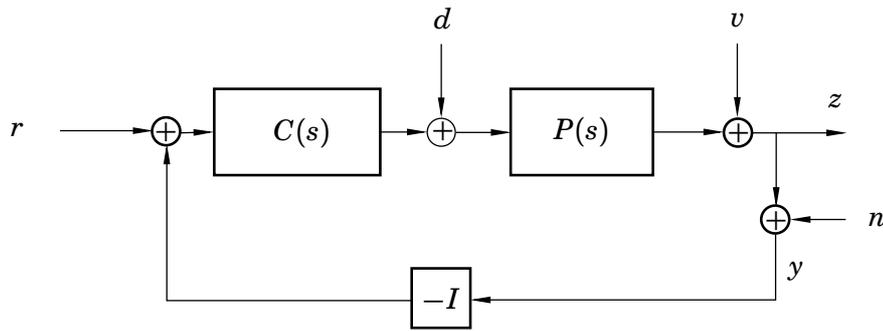

Figure 6.5 System in Problem 6.6
6.6 A multi-variable system (block diagram in Figure 6.5) is supposed to attenuate all output load disturbances (v) with at least a factor 10 for frequencies *below* 0.1 rad/sec. Constant output load disturbances should be attenuated by at least a factor 100 in stationarity.
6.7 Consider the setup of Figure 6.5 with